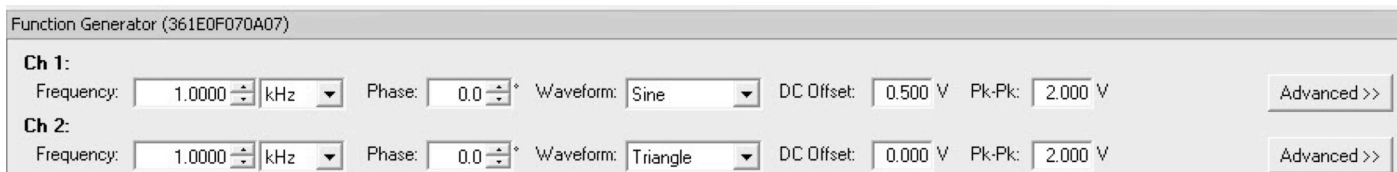

Fig. 5—Function generator screen
2. Change the settings for Ch 1 and Ch 2 to match those shown in Fig. 5.